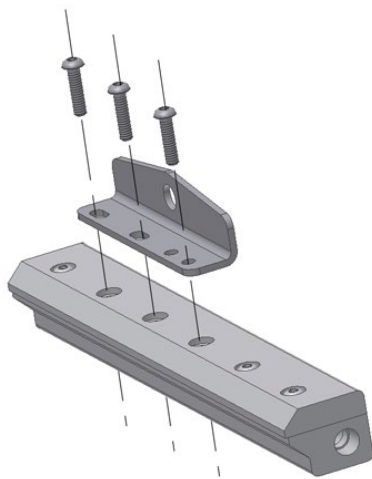
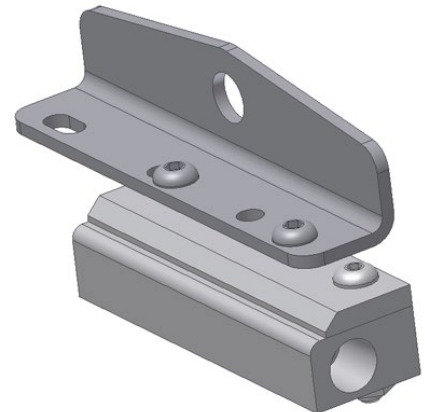

Figure 1 12" (305mm) Alum.
Figure 2 3" (76mm) St. Steel
Determine the best mounting position for the air knife and remove (3) adjacent screws as shown in Figure 1. While it is recommended to use the screws nearest the center of the air knife, it is not required. Place the bracket flat on the knife and align the holes (see Figure 1). For 3" (76mm) air knives, it may be necessary to use only (2) screws and allow the bracket to overhang the end of the air knife (see Figure 2). Install the new screws and washers (see Table 1 on page 3). Torque to 7.5 ft-lbs. For air knives that are assembled using screws and nuts, re-use the original nuts.